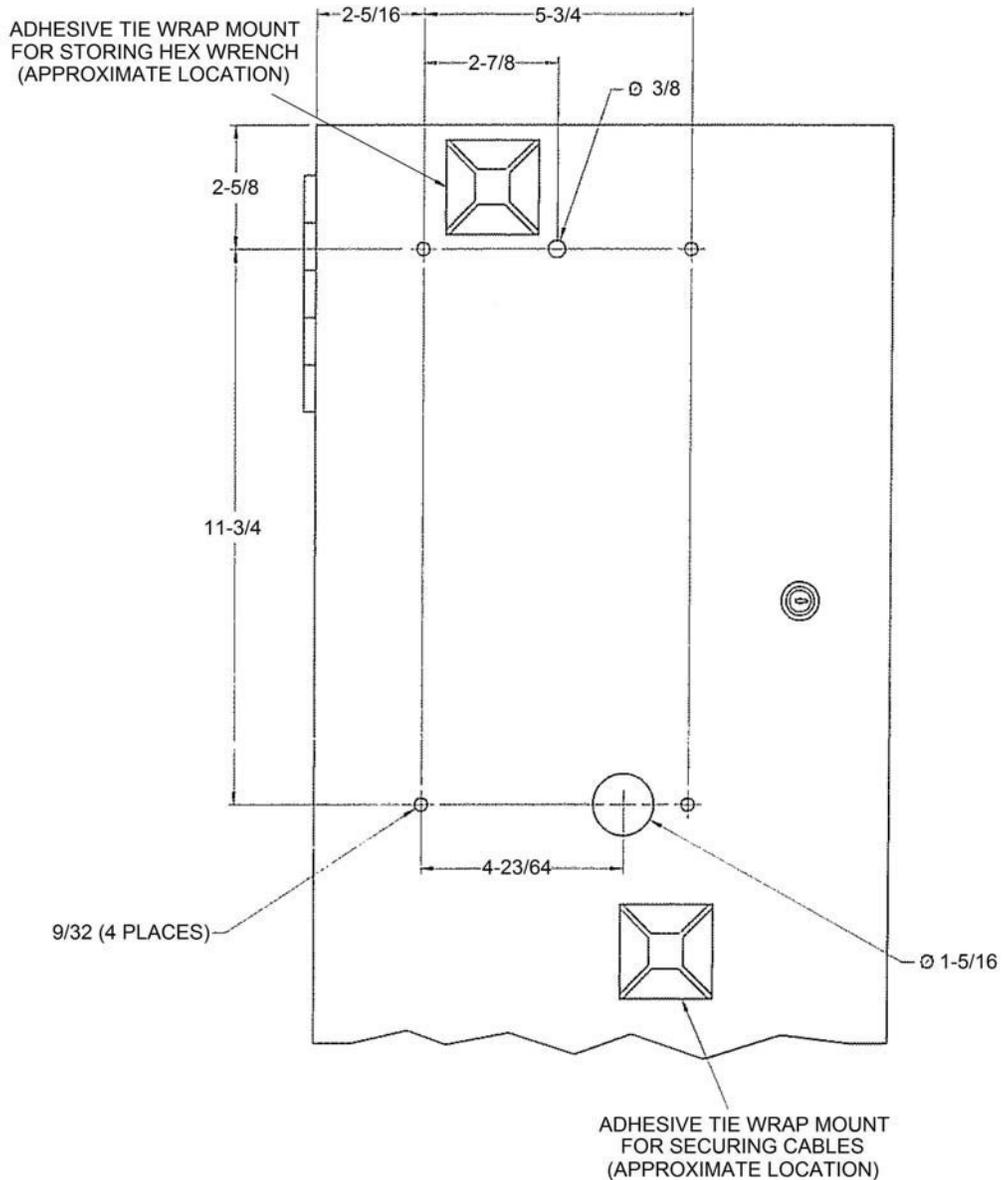

Figure 1 Locating Mount Holes and Tie Wrap Mounts
These procedures assume the Pedestal Receipt Printer is being added to an existing Fuel Management Unit (FMU) without a receipt printer. Holes are drilled in the FMU pedestal door according to Figure 1 to receive the receipt printer.
5. Locate, mark, and drill/punch the four 9/32-inch mount holes, the 3/8-inch hex wrench access hole, and the 1-5/16 cable entry hole (Figure 1).